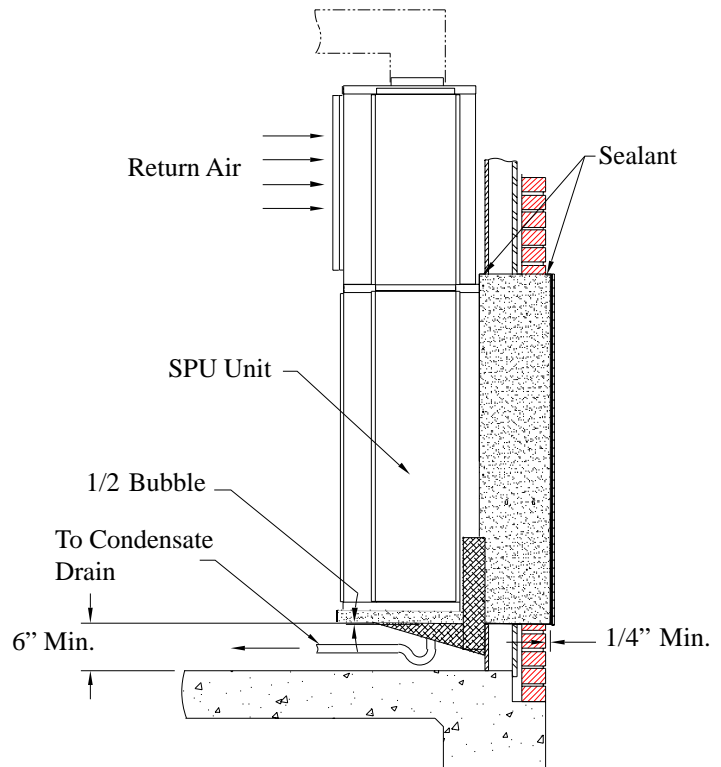

Figure 3
5. The front edge of the sleeve should protrude 1/4" to 1/2" from the finished outside surface of the wall (Fig. 3).
6. Align the sleeve with the wall so that the bottom pan is angled 1/2 bubble toward the outside of the building (Fig. 3).
10. Place a bead of silicone sealant or other high grade non-hardening sealing compound approved for exterior use to seal the gap between the wall sleeve and both the inside and outside wall surfaces (Fig. 3). Sealant should also be applied around the heads of the fasteners used to secure the sleeve.